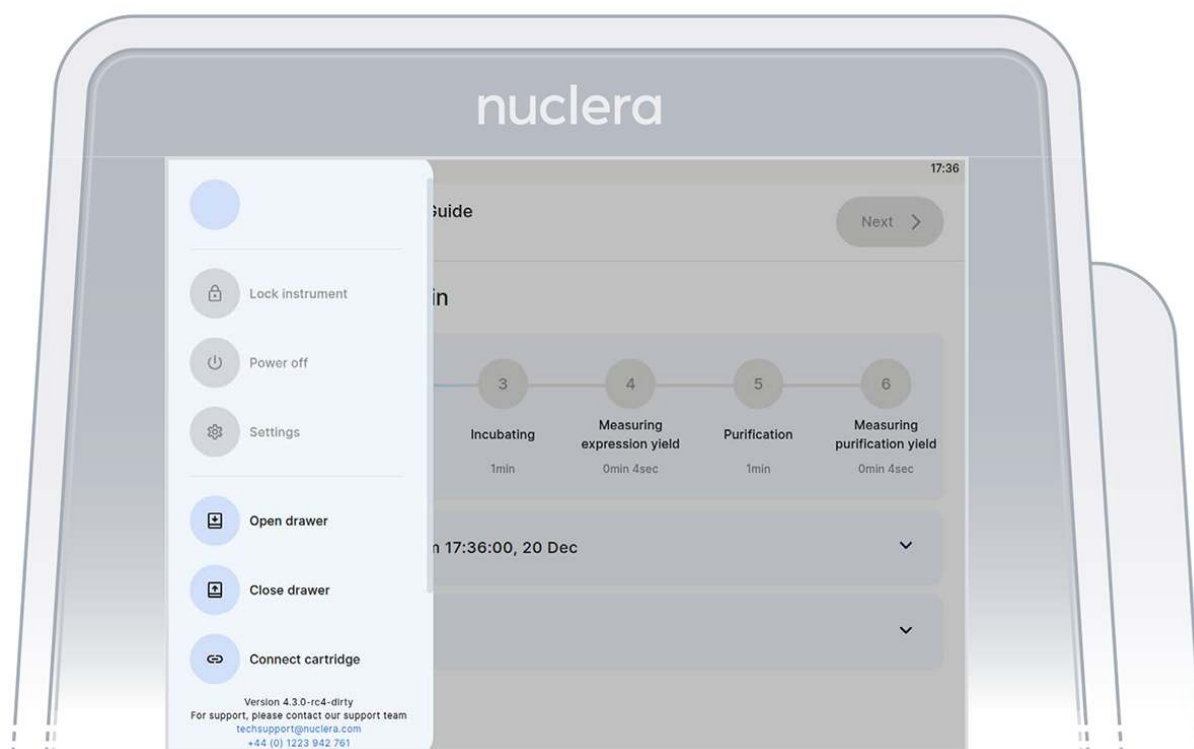

Figure 32: Remove the cartridge from the instrument
6. Power down the instrument after use by pressing the [Power off] button (Figure 32)